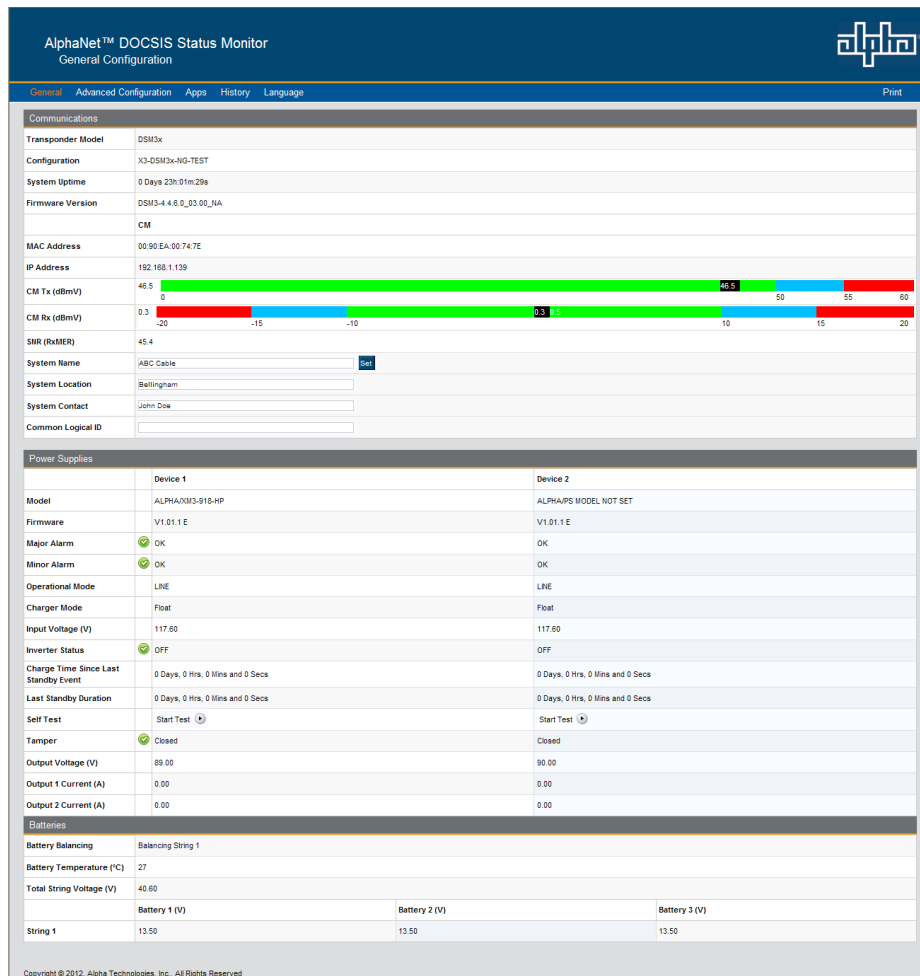

Fig. 2-42, Web Server Home Page
4. The DSM3 Series transponder's Web server home page will appear (Fig. 2-42).